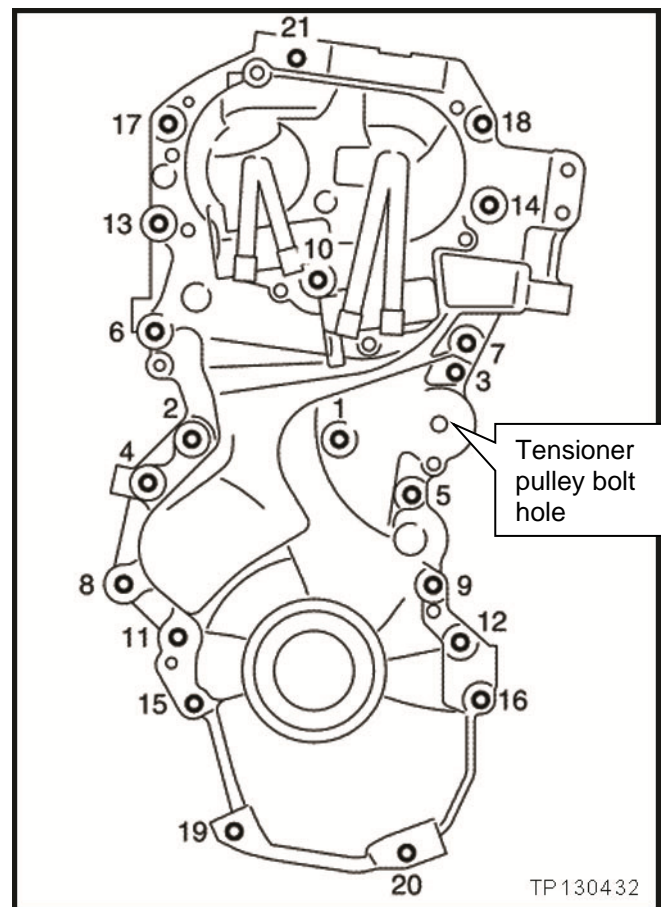

Figure 45a
- Clean excess silicone out of bolt holes 1, 3, 5, 7, 10, 15, 19, 20 (see Figure 45a).
- Also clean excess silicone out of the hole for the belt tensioner pulley bolt hole (see Figure 45a).
59. Install the front cover bolts shown in Figure 45a.